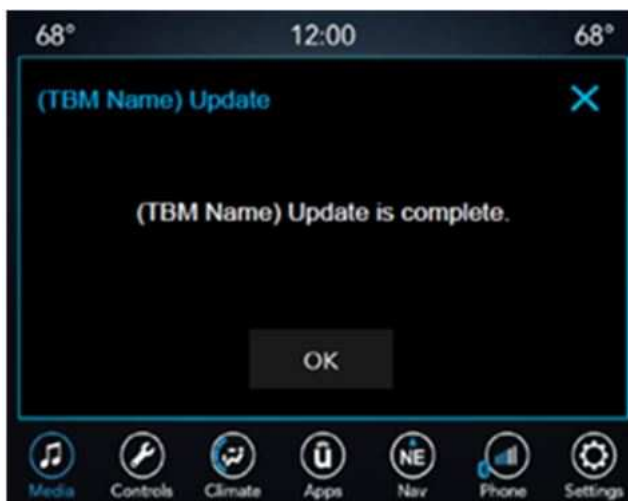

Fig. 7
22. Wait for a pop-up to appear on the radio display to indicate update completed press "OK". **Do not** switch off the engine (Fig. 7) .
30. Wait 35 minutes in key-on (ICE off), during this time, a pop-up should appear on the radio display to indicate the update is completed (Fig. 7) press OK and go to Step 32.